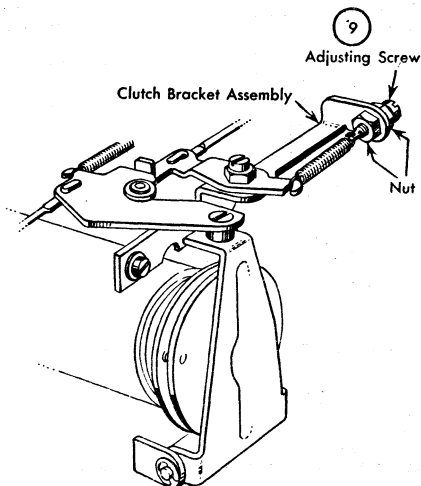

Figure 38. Adjustable Tension Latch Spring
9. A variation of the roller latch type of clutch incorporates an **ADJUSTABLE TENSION LATCH SPRING** (Figure 38). Insufficient tension in the latch spring can cause a partial carriage return. After clutch and carriage return adjustments have been properly made, spring tension should be adjusted to insure proper return by adjusting locking nuts on the latch spring bracket. Excessive tension on the latch spring can cause the carriage to